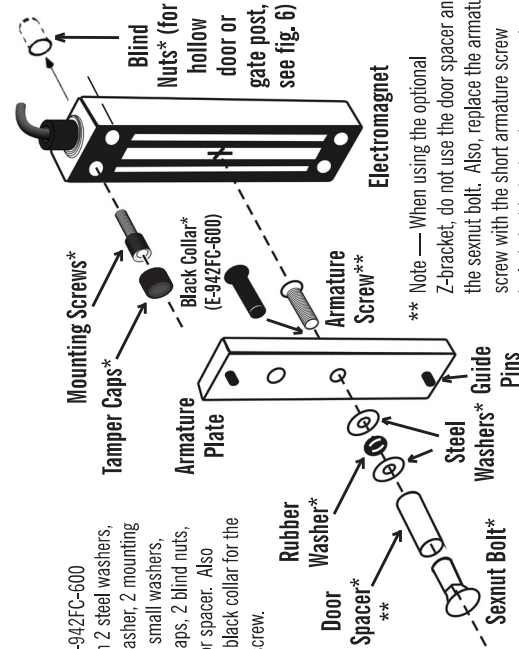

FIG. 2 - Installation on a single-swing gate
- Single-swing gate** (fig. 2) — Gate swings on one end, and comes to rest on a fixed gate post when closed. In this case, a typical installation has the electromagnet fixed to the gate post, and the armature connected to the free end of the gate with a Z-bracketed one gate, and the armature is fixed to the free end of the other via a Z-bracket. **IMPORTANT:**